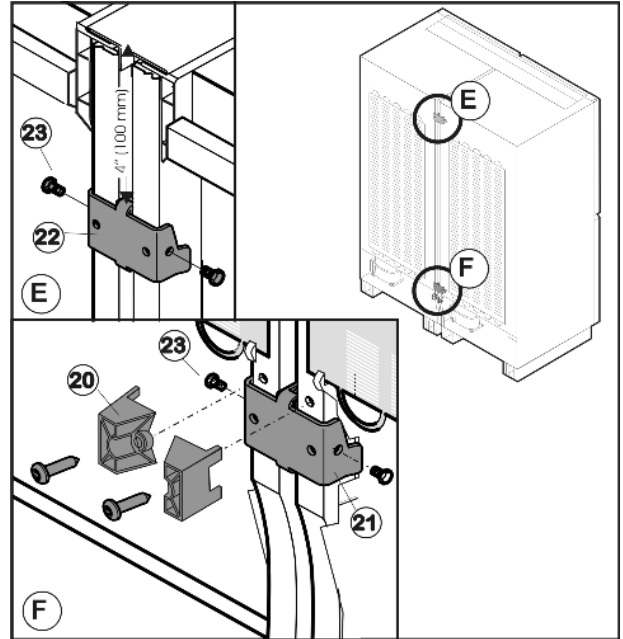

Fig. 66
- ▶ Remove the spacers Fig. 66 (20) from the lower reverse side of the appliances.
- ▶ Position lower connecting piece Fig. 66 (21) such that the screw holes are above each other and screw Fig. 66 (23) on from the side.
- ▶ Position upper connecting piece Fig. 66 (22) and screw Fig. 66 (23) on from the side.
- ▶ Tighten the screws Fig. 66 (23).